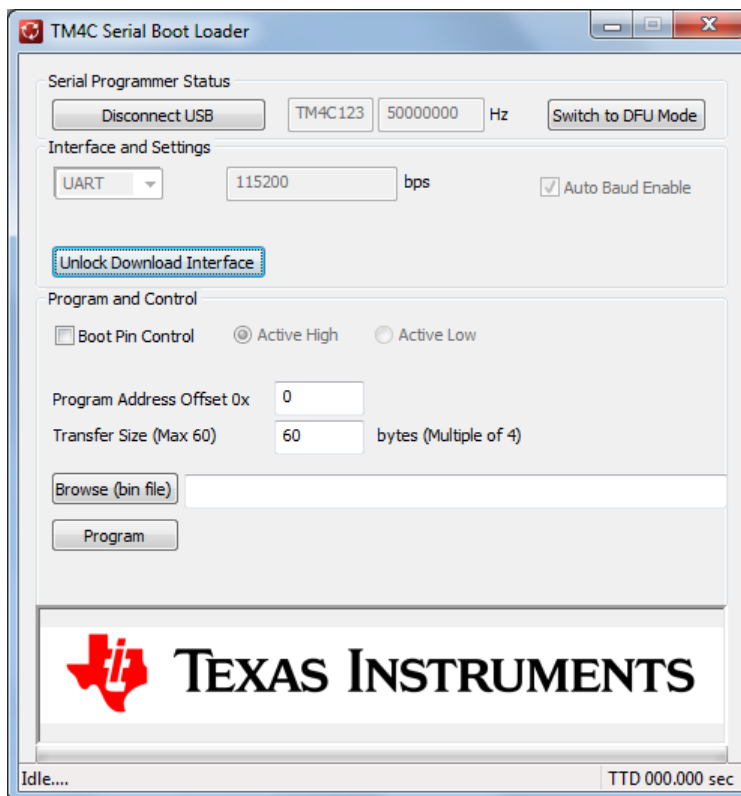

Figure 41. Locking the Interface Selection
5. If you want to prevent any inadvertent change to the selected SBL interface, then click on the “Lock Download Interface”. This deactivates the interface selection. Clicking on “Unlock Download Interface” reactivates the interface selection, as shown in Figure 41.